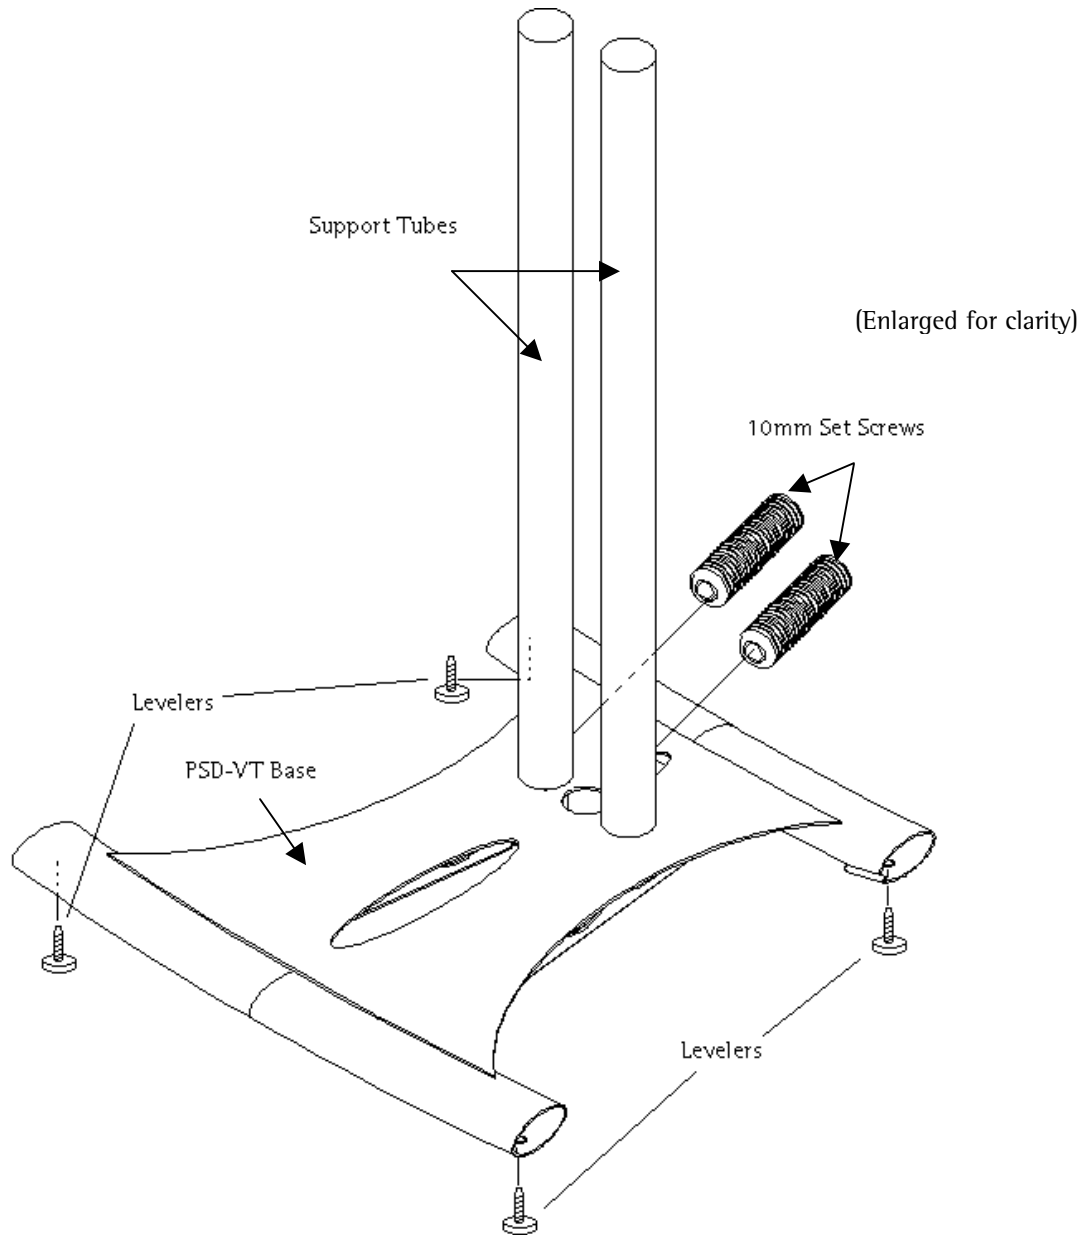

Figure 4. Support Tube Installation
3. Insert the set screws into each hole and tighten with an Allen wrench (Figure 4).